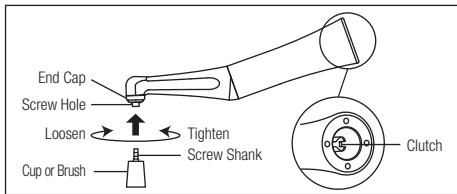

Fig. 4
- 3) Check that the screw part of the cup or brush is inserted to the end. (Fig.4)
Remove the handpiece from the motor, hold the cup or brush firmly while the handpiece clutch is fixed, and turn it in the loosening direction as shown in Fig. 4.